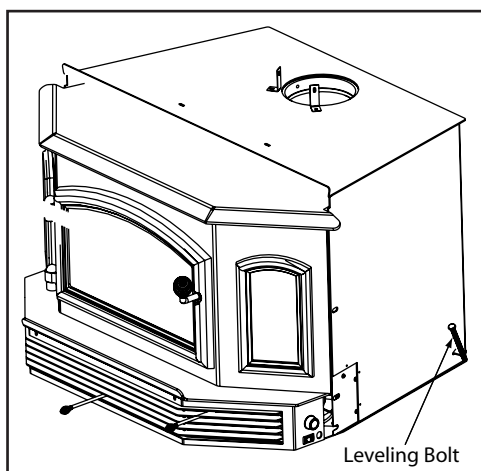

Figure 21.1
2. Remove the leveling bolts from the component pack and start the bolts in the weld nuts. **Figure 21.1.**
1. Remove the bolts from the component pack and insert into weld nuts welded to each side of the insert bottom **Figure 21.1.**
The next stage of burning, the secondary stage, is the period when the wood gives off flammable gases which burn above the fuel with bright flames. During this stage of burning it is very important that the flames be maintained and not allowed to go out. This will ensure the cleanest possible fire. If the flames tend to go out, it is set too low for your burning conditions. The air control located at the upper right hand corner is used to adjust for burn rates. This is called the Burn Rate Air Control. **Figure 21.1.**